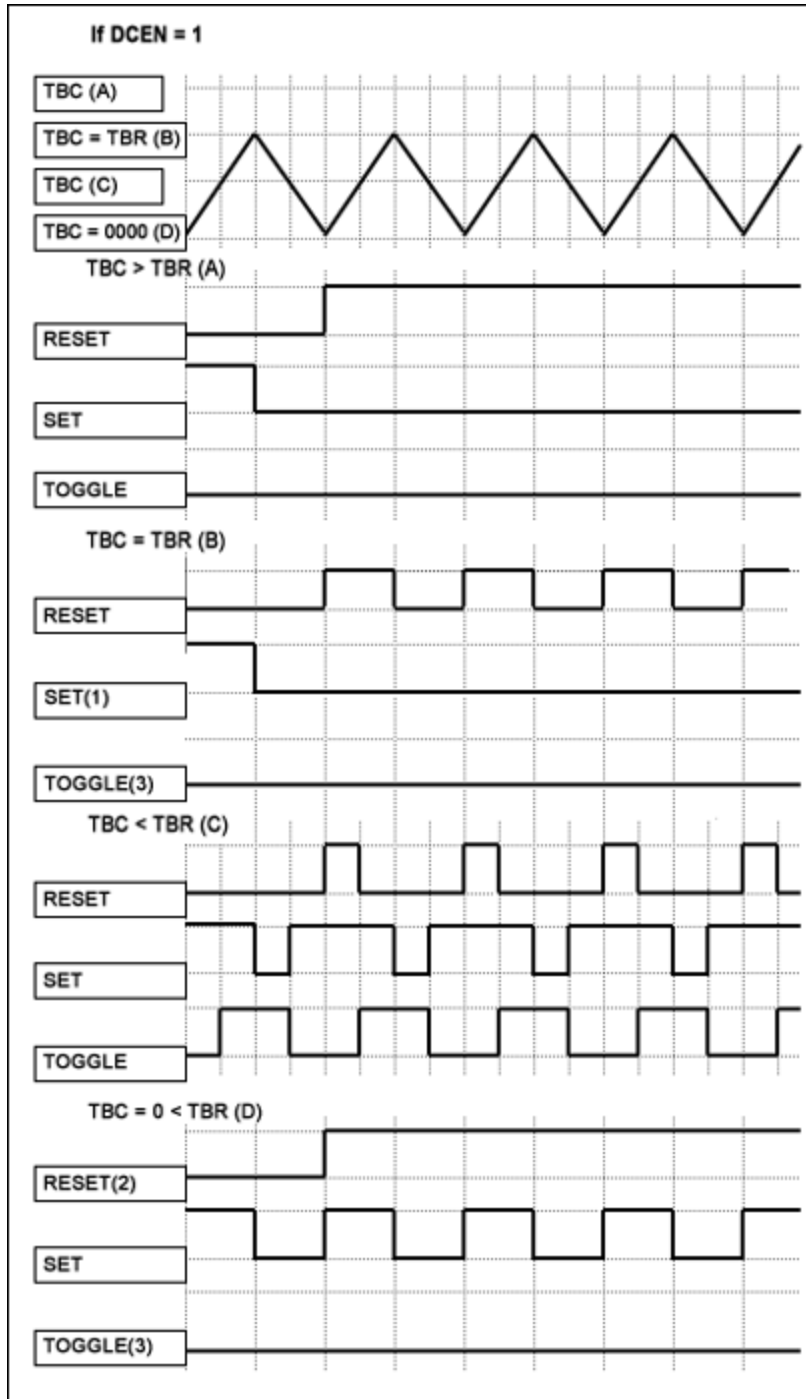

Figure 4.
**Example 6: Generate a 512Hz waveform with a 50% duty cycle starting LOW (use TOGGLE mode). (See Figure 4.)**